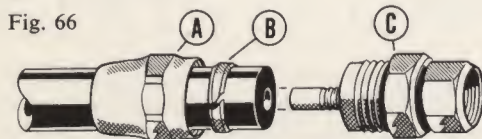

Fig. 66
78. How are these hose connections applied? (Fig. 66)
- (a) Slip sleeve (A) and compression ring (B) over end of hose.
- (b) Hold body (C) in vise.